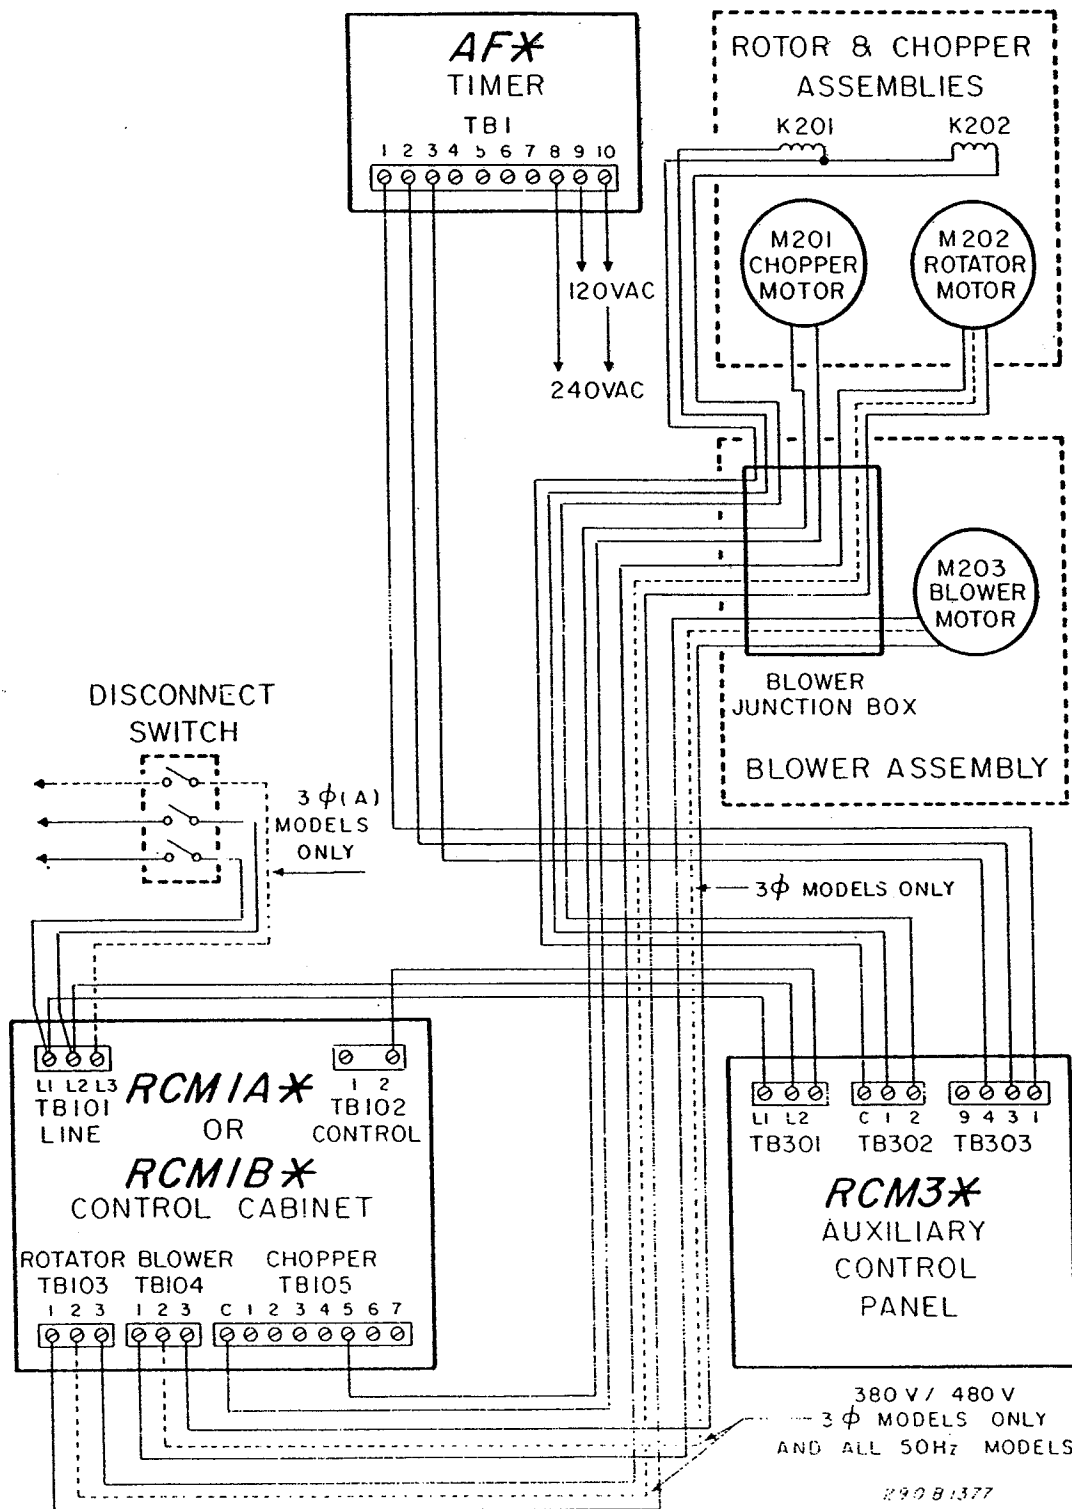

Figure 3-21. Model 1003 Electrical Connections.
Figure 3-21 shows the wiring diagram of the power and control circuitry of a typical Model 1003 Thunderbolt Siren installation. The wiring diagrams of the RCM1A (three phase) and RCM1B (single phase) Control Cabinets are shown in figures 5-11 and 5-12, respectively. The wiring diagram of the RCM3 Auxiliary Control Panel is shown in figure 5-13.
To connect the Control Cabinet and siren to the power source (See figures 3-21 and 3-22):
6. Route two AWG 14 wires from TB101 in the RCM1 to TB301 in the RCM3 through the conduit that was installed in step 2. Route a third AWG 14 wire from TB102 to TB301, as shown in figure 3-21.